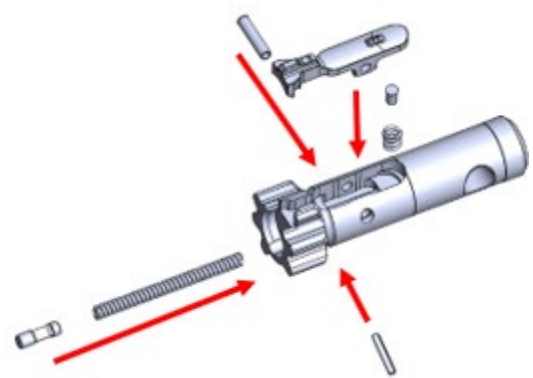

Figure 52: Bolt Head Assembly Exploded View
1. Press the extractor buffer into the extractor spring. (Figure 52)
2. Press the extractor spring assembly onto the extractor spring catch point, until it snaps in position. (Figure 52)
3. Press the extractor assembly into the extractor slot on the bolt body, aligning the pin hole cutouts, then press the extractor pin through from right to left. It may be necessary to lightly tap the pin through the hole using a brass hammer. (Figure 52)
4. Place the ejector spring into the hole in the bolt body. Align the cutout in the side of the ejector pin with the cross hole in the bolt body and press the pin into the hole until the roll pin can be installed through the side (Figure 52).